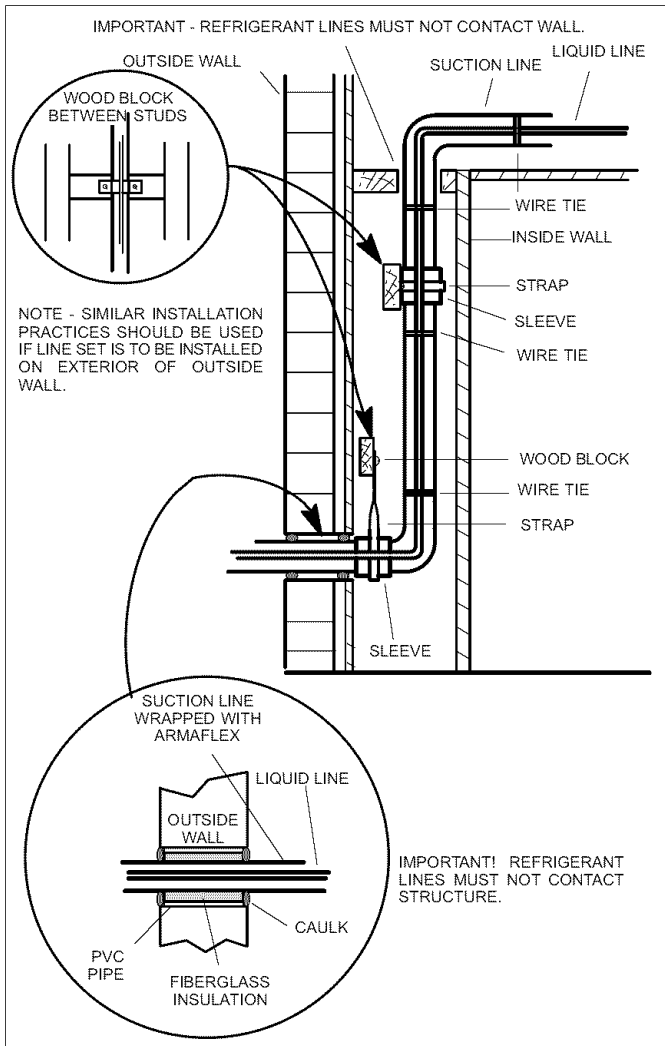

Figure 16. Refrigerant Line Set: Installing Vertical Runs (New Construction Shown)
- Installation of **line set on vertical runs** is illustrated in figure 16.